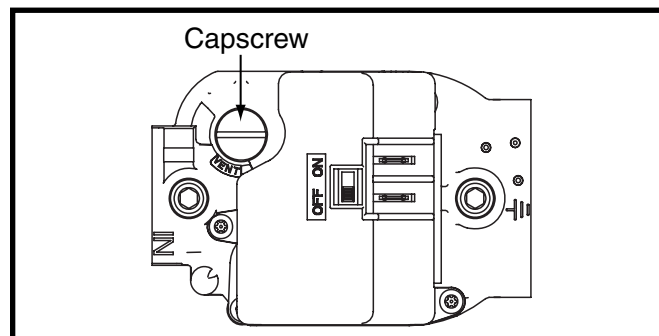

Figure 17. Regulator Capscrew
7. Remove the regulator capscrew from the INLET side of the regulator. See (Figure 17, \(page 20\)).